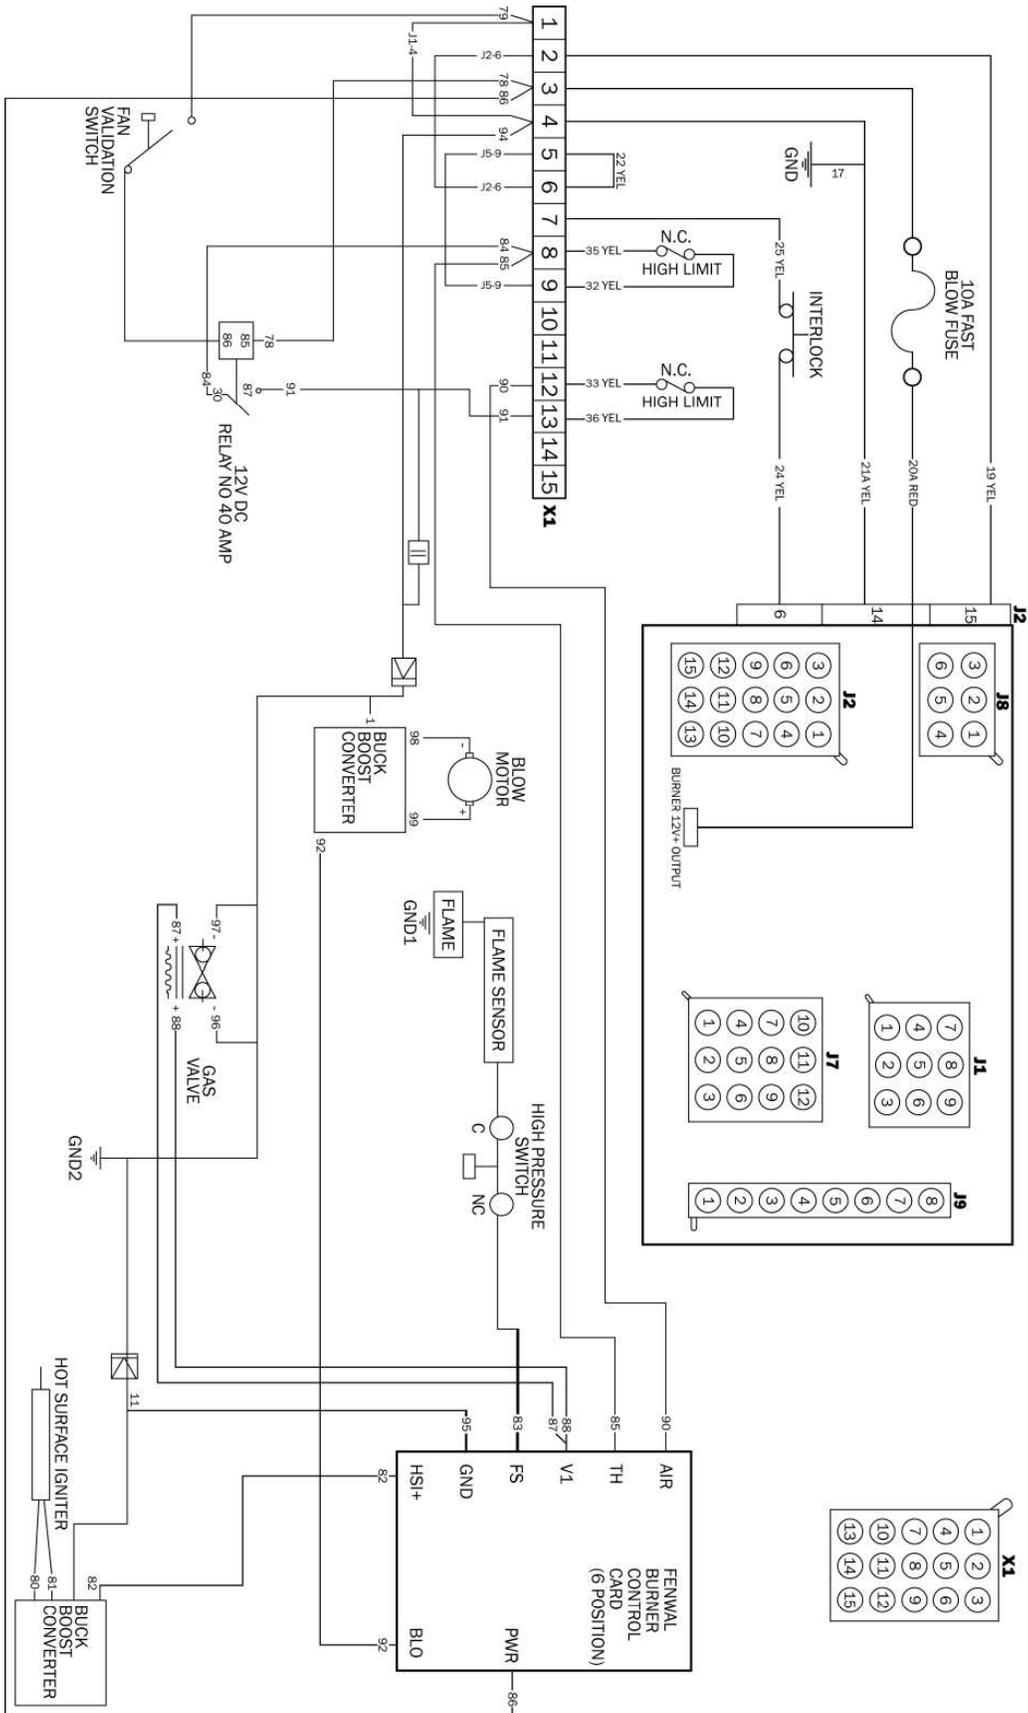

**Figure 137**
2. Open the Aqua-Hot’s drain valve located at the front of the heater. See Figure 137.